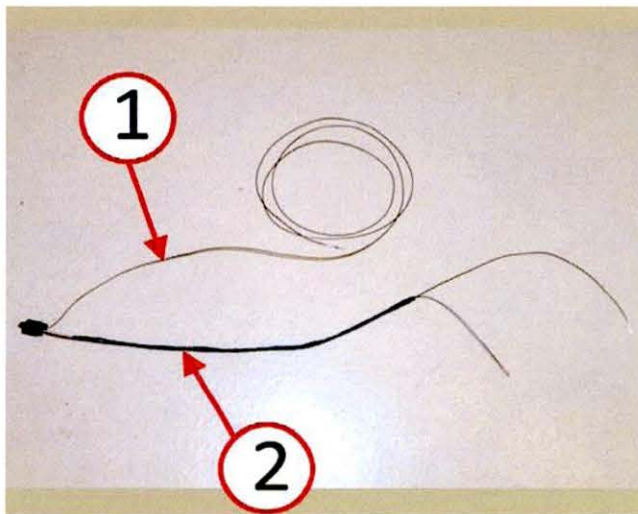

**Fig. 4 Insert Fuse Into Fuse Holder**
4. Insert 5 amp fuse (1) into fuse holder (2) (Fig. 4).